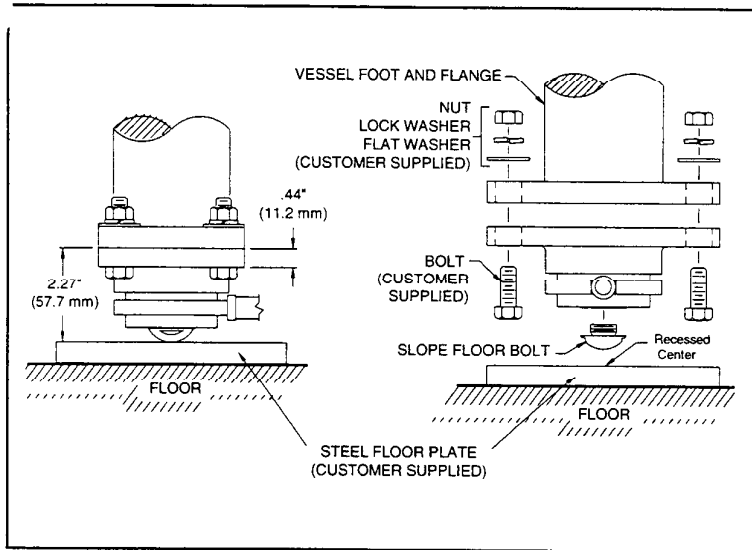

Figure 2-7. Load Disc II Transducer with a Free-Standing Hardware Kit.
This Load Disc II transducer configuration has a hardware kit that consists of a top screw with a curved head (Figure 2-7). This installation is free-standing and is recommended for vessels that do not agitate and preferably are supported on three legs. This hardware kit is also used on vessels located on a sloped floor. Follow this procedure.
6. Secure the Load Disc II transducer to the bottom of the vessel leg or gusset using 3/8"-24 UNF\*, 7/16-20 UNF\*\*, or 3/4"-10 UNC\*\*\* bolts (ASTM-A325 or stronger), lock washers, flat washers, and nuts. Orient the bolts so that the head faces down and the nuts and washers are on top (Figure 2-7). Follow Steps 1 through 6 to install all of the transducers to the vessel legs or gussets.